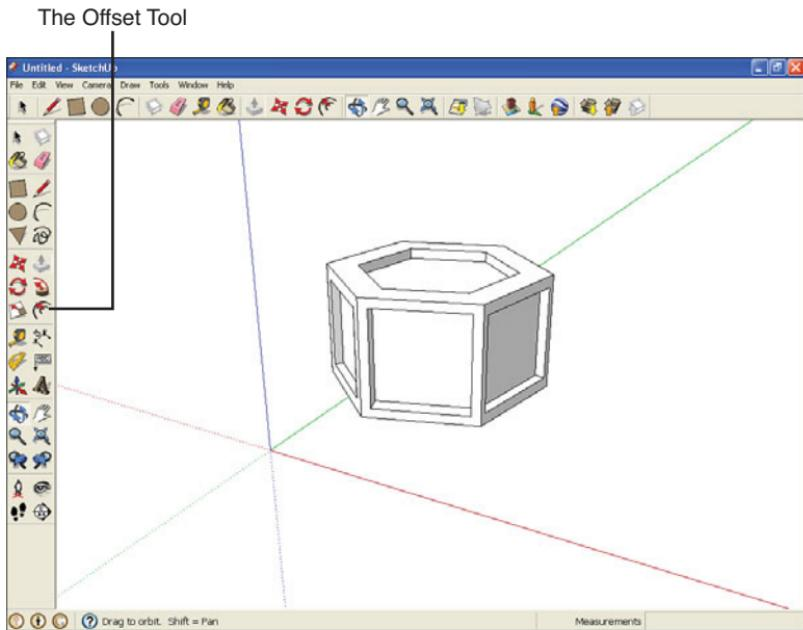

FIGURE 9.4 Decorating an object using the Offset tool.
Using the Offset tool and the Push/Pull tool, we'll change this object to the one you see in Figure 9.4 with just a couple of clicks.
8. Select the **Offset tool** in the Large Tool Set toolbar. The Offset tool is the tool that displays an image of two concentric circle sections with a red arrow connecting them (shown in Figure 9.4).
- 15.** Select each offset surface and push it into the object, as shown in Figure 9.4.